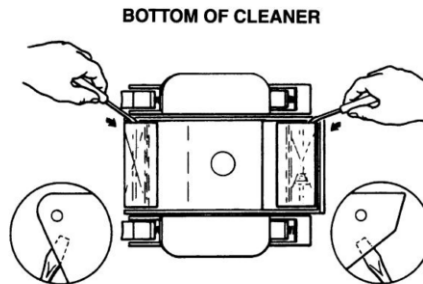

Figure 11
- a) Remove the front and rear flaps from your Hayward Blu cleaner by inserting a small flat screwdriver between the flap and the lower body near the pivot point of the flaps (See Figure 11).